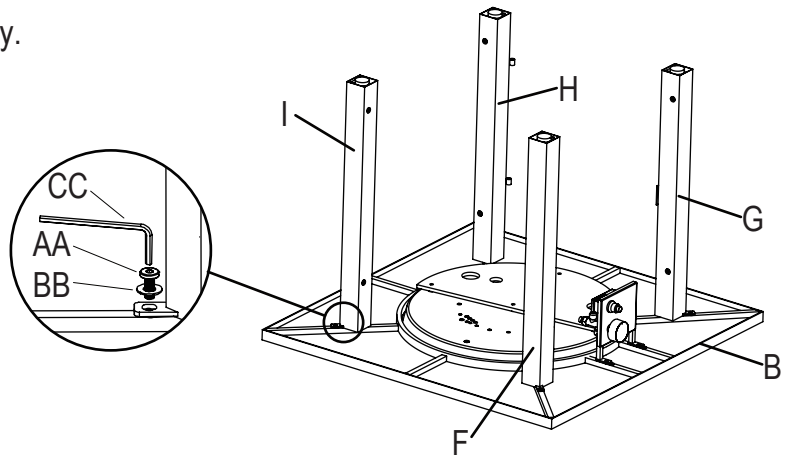

Figure 2
- Attach back-left leg (H) and back-right leg (I) and front-left leg (G) and front-right leg (F) to table top assembly (A) with bolts (AA) and washer (BB) by using hex screw driver (CC), (see Figure 2).